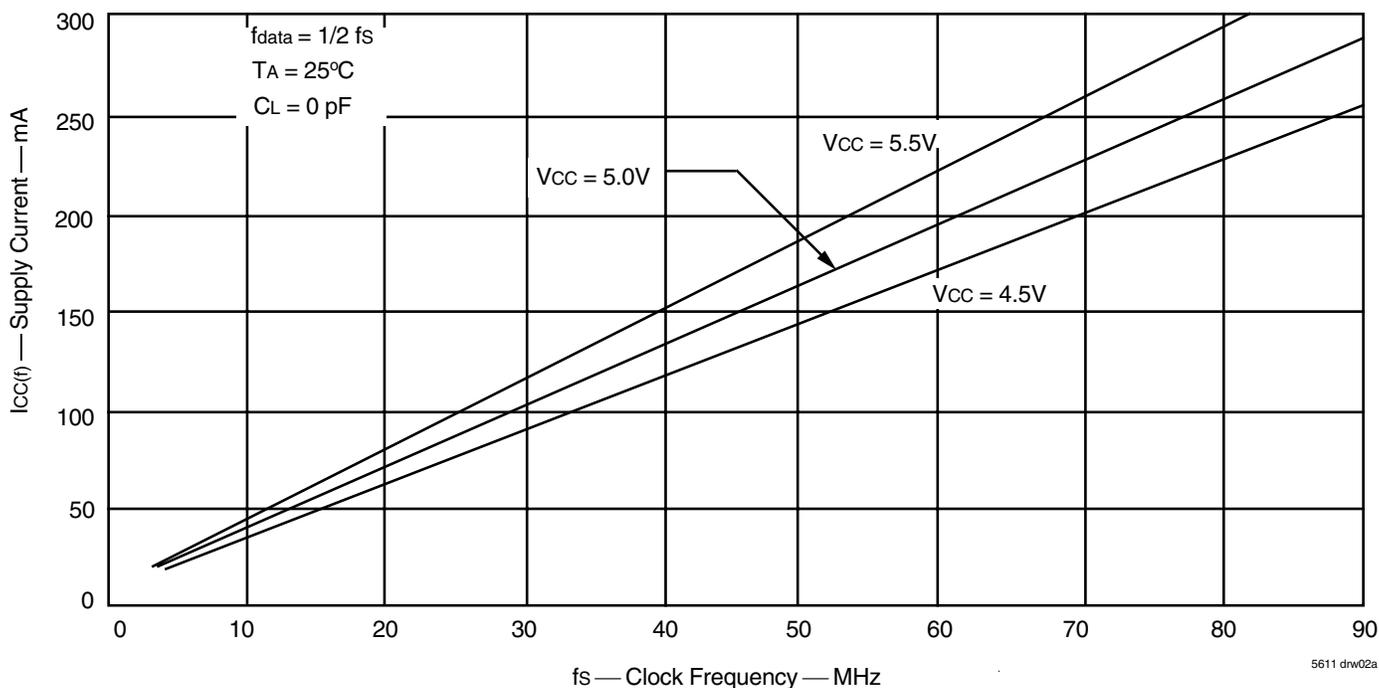

Figure 1. Typical Characteristics: Supply Current (I_{CC}) vs. Clock Frequency (f_s)
- For additional I_{CC} information, see Figure 1, Typical Characteristics: Supply Current (I_{CC}) vs. Clock Frequency (f_s).
The $I_{CC}(f)$ current for the graph in Figure 1 was taken while simultaneously reading and writing a FIFO on the IDT723656/723666/723676 with CLK A, CLK B and CLK C set to f_s . All data inputs and data outputs change state during each clock cycle to consume the highest supply current. Data outputs were disconnected to normalize the graph to a zero capacitance load. Once the capacitance load per data-output channel and the number of these device's inputs driven by TTL HIGH levels are known, the power dissipation can be calculated with the equation below.
With $I_{CC}(f)$ taken from Figure 1, the maximum power dissipation (P_T) of these FIFOs may be calculated by: